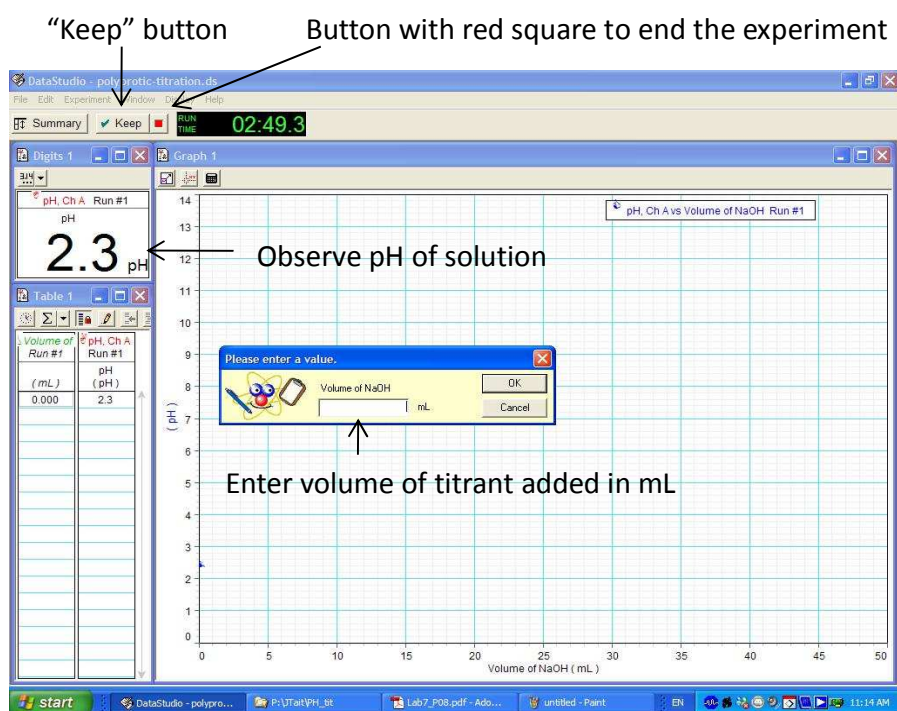

Figure 2: Collection of titration data.
### Titration of phosphoric acid with sodium hydroxide (see Figure 2)
2. Rinse the electrode with distilled water and dab it dry. Place the electrode into the phosphoric acid solution so that the glass bulb is completely immersed in the solution. Click on the “Start” button to begin the data acquisition. Note that the software is reading the pH of the solution (approximately pH 2). Swirl the beaker beneath the electrode, and once the pH is stable press the “Keep” in the software (see Figure 2), enter zero in the window that appears, and click “Ok”.